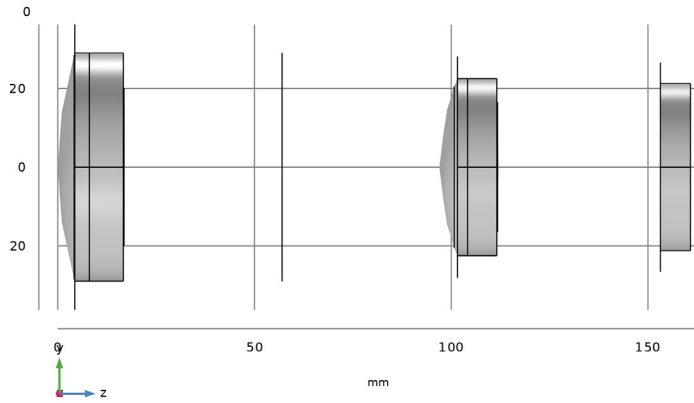
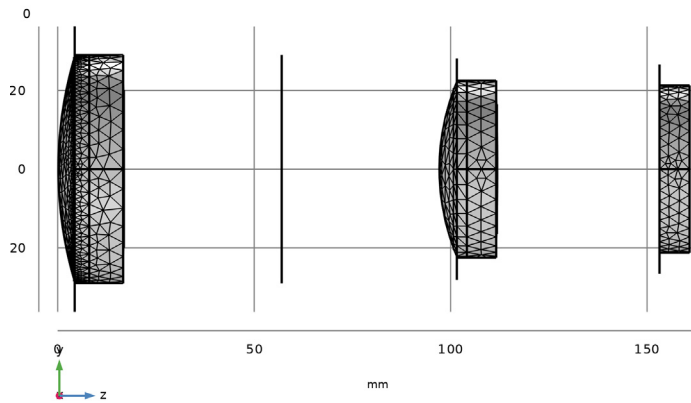

Figure 2: The Petzval lens geometry sequence.
Figure 3: The Petzval lens mesh.
The Petzval lens geometry sequence is shown in Figure 2 and the mesh can be seen in Figure 3.
- 9 In the **Graphics** window toolbar, click  next to  **Go to Default View**, then choose **Go to ZY View**. This will orient the view to place the optical axis (z -axis) horizontal and the y -axis vertical. Compare the resulting geometry to Figure 2.